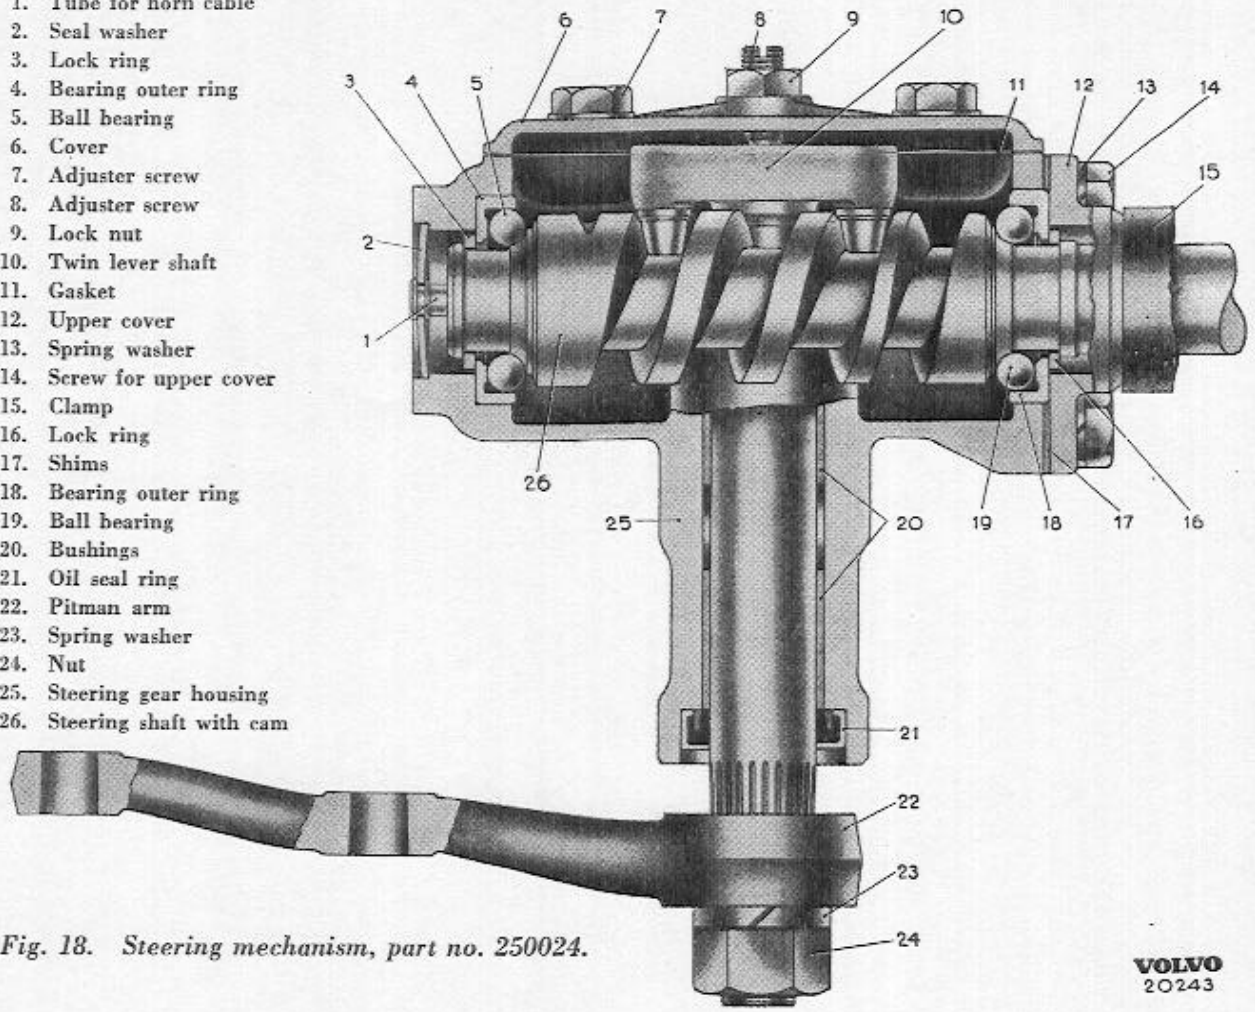

Fig. 18. Steering mechanism, part no. 250024.
2. Loosen bolt (15, fig. 18) for jacket tube. Pull off jacket tube.
3. Remove cover (6) and drain oil.
4. Lift up twin lever shaft (10).
5. Screw out the three bolts (14) attaching the upper cover (12) and remove same. Keep adjuster shims (17), if there are any fitted.
6. Pull out steering column complete with cam (26). Ball bearings (5 and 19) and outer rings (4 and 18) will be removed at the same time.